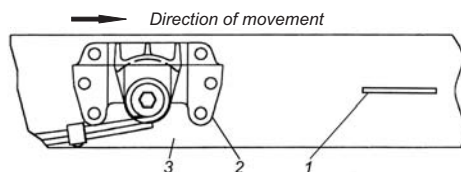

Fig. 2.2. Location of VIN on the vehicles with cargo body and chassis:
**Vehicle Identification Number (VIN) on the vehicles with cargo body** appears on the right side member before the rear spring front bracket (Fig. 2.2).